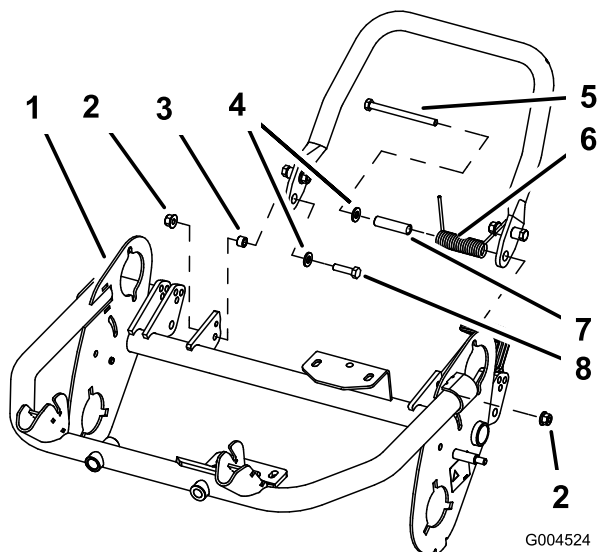

Figure 6
2. Install a washer (M8) onto the small bolt (M8-1.25 x 030). Install the right side of the kickstand to the frame with the bolt and washer, the small spacer, and locknut (M8-1.25) (Figure 6). Ensure the bolt is installed from the inside of the frame as shown in Figure 6.
Important: When installing the spring, place one end of the spring under the rear frame (Figure 6).
5. Install the left side of the kickstand to the frame with the bolt and washer, the large spacer and spring, and locknut (M8-1.25) (Figure 6). Ensure the bolt is installed from the inside of the frame as shown in Figure 6.